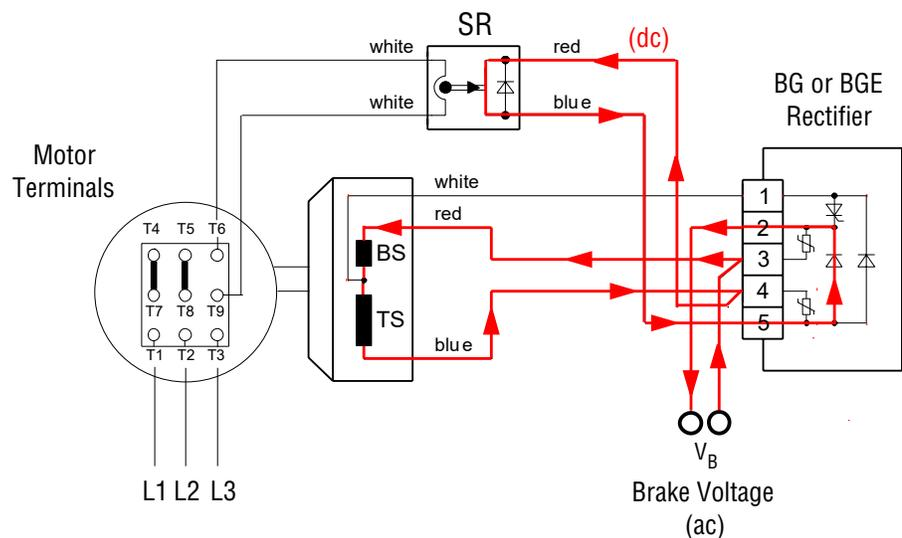

Figure 1 - Motor Energized
To illustrate the functionality of an SR relay, refer to Figure 1. The white wires of the SR connect in series with one phase of the AC motor. Notice how it replaces a jumper between T6 and T9 on a high voltage connection (Y). When the motor is energized, ac current flows across the white wires, which causes an actuator inside the SR to close the switch.